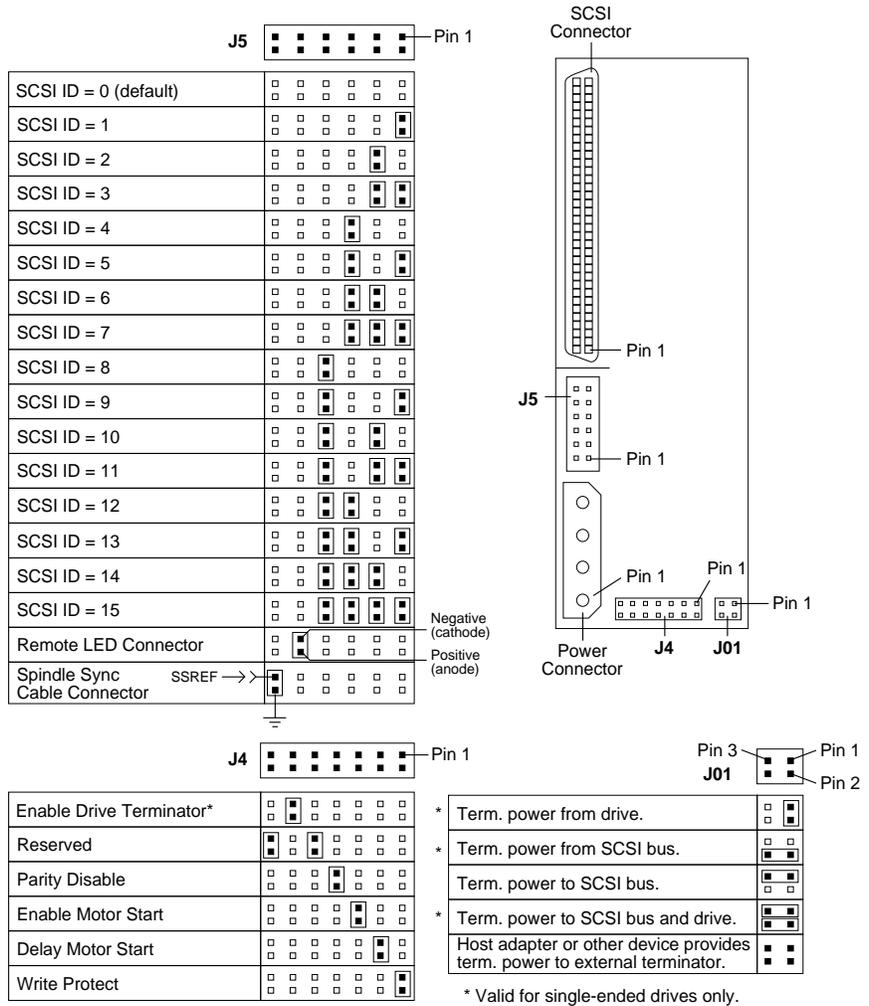
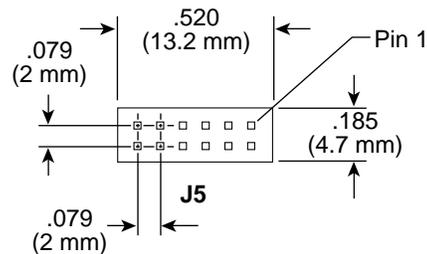

Figure 22. ST15150W/WD drives option select jumper connectors
Figure 27. ST15150W/WD drives configuration select header specification
Figure 22 illustrates ST15150W/WD drives option select jumper connectors.
** See Figure 22 to set the SCSI ID.
Dimensions of the J5 connector mounted on the main PCB of ST15150W/WD drives to interconnect the drives are shown in Figure 27. The connector is a 12-pin, 6-position gold 2 mm header type connector. Only pins 11 and 12 are used for connecting the reference index signal cable, as shown in Figure 22. Pin 11 is SSREF+ and pin 12 is ground.
To enable internal drive termination, install a jumper on J4 pins 11 and 12 as shown in Figure 22.